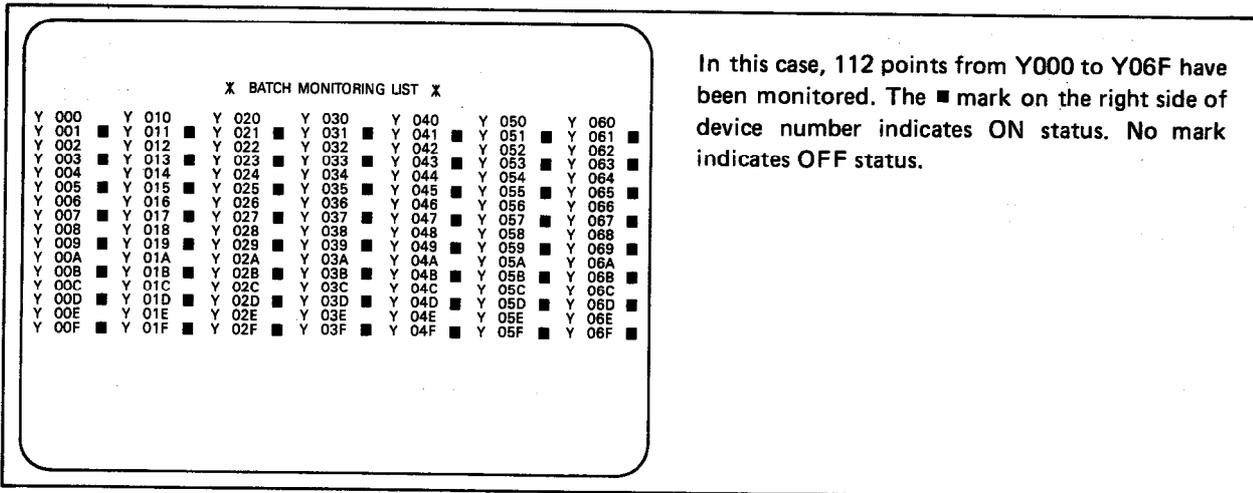

Fig. 5.1 Batch List Monitor of Y
- (1) For X, Y, M, F, and K, 112 points are displayed on one screen with their respective ON/OFF states. (Refer to Fig. 5.1.)
For Y, M, F, and K, 112 points are displayed on one screen with the relevant ON/OFF states. (Refer to Fig. 5.1.)